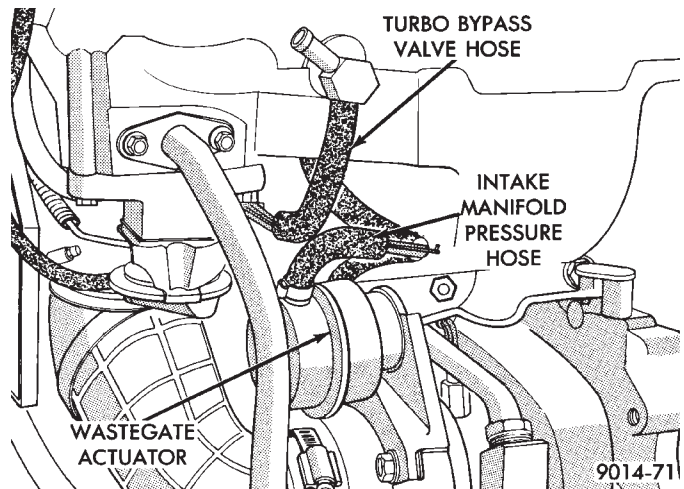

Fig. 19 Hose Connections
(27) Verify the vacuum and pressure connections on the turbo charger are secure (Fig. 19).
(28) Check the turbo bypass valve hose connection (Fig. 19).